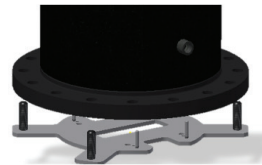

Figure 66
5.0.26) Lift the insertion housing off the alignment gauge plate and carefully place on the temporary gate valve (see Figure 66).